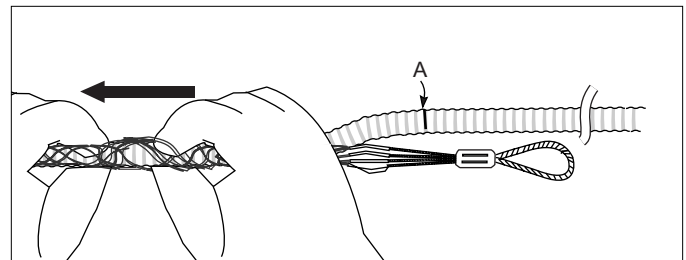

Figure 6 — Walking the grip
Step 7: Use a pumping action to walk the grip over the cable by bringing your hands together and then relaxing them until the end of the grip is past the A mark on the cable (Figure 6)